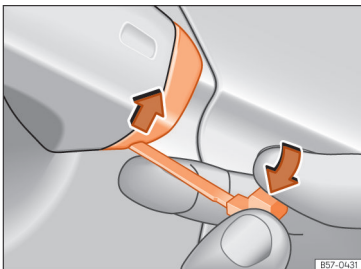

Fig. 53 Driver's door handle: pry the cover open.
- Insert the emergency key into the lower opening in the cover on the driver's door handle then lift the bottom cover upwards »» Fig. 53.